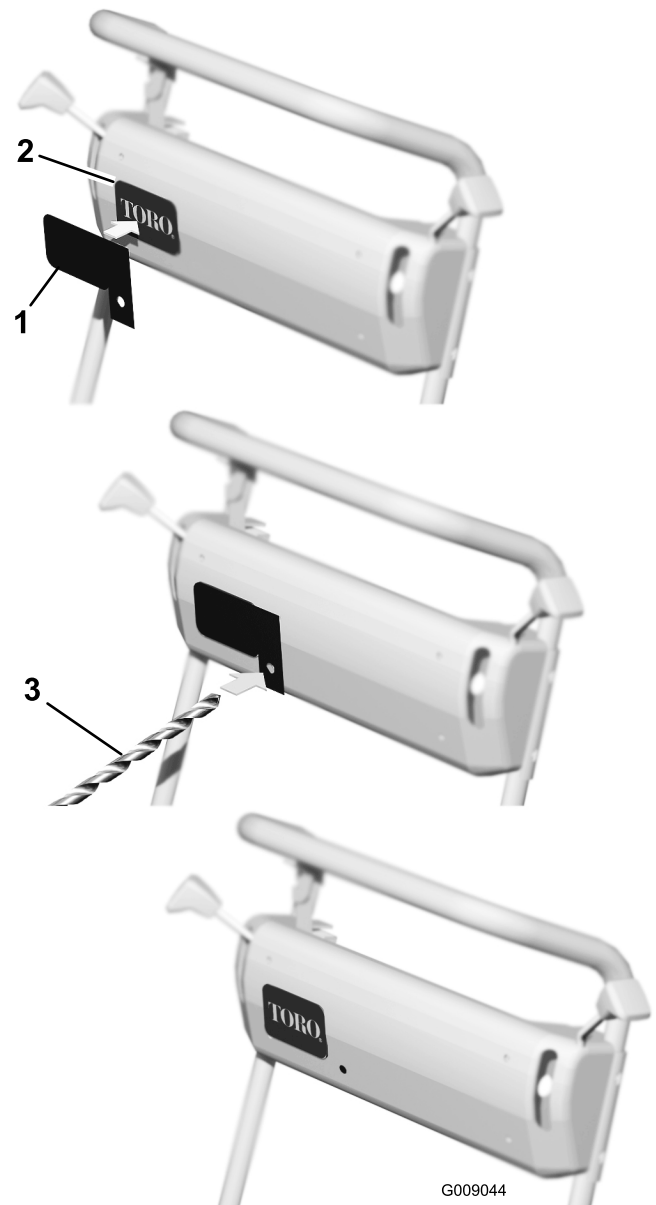

Figure 2
1. Remove the backing from the template decal (Figure 2).
2. Affix the template decal directly over the Toro logo on the front of the console (Figure 2).
3. At the locations marked on template decal, drill (2) .125 inch diameter holes through the console.